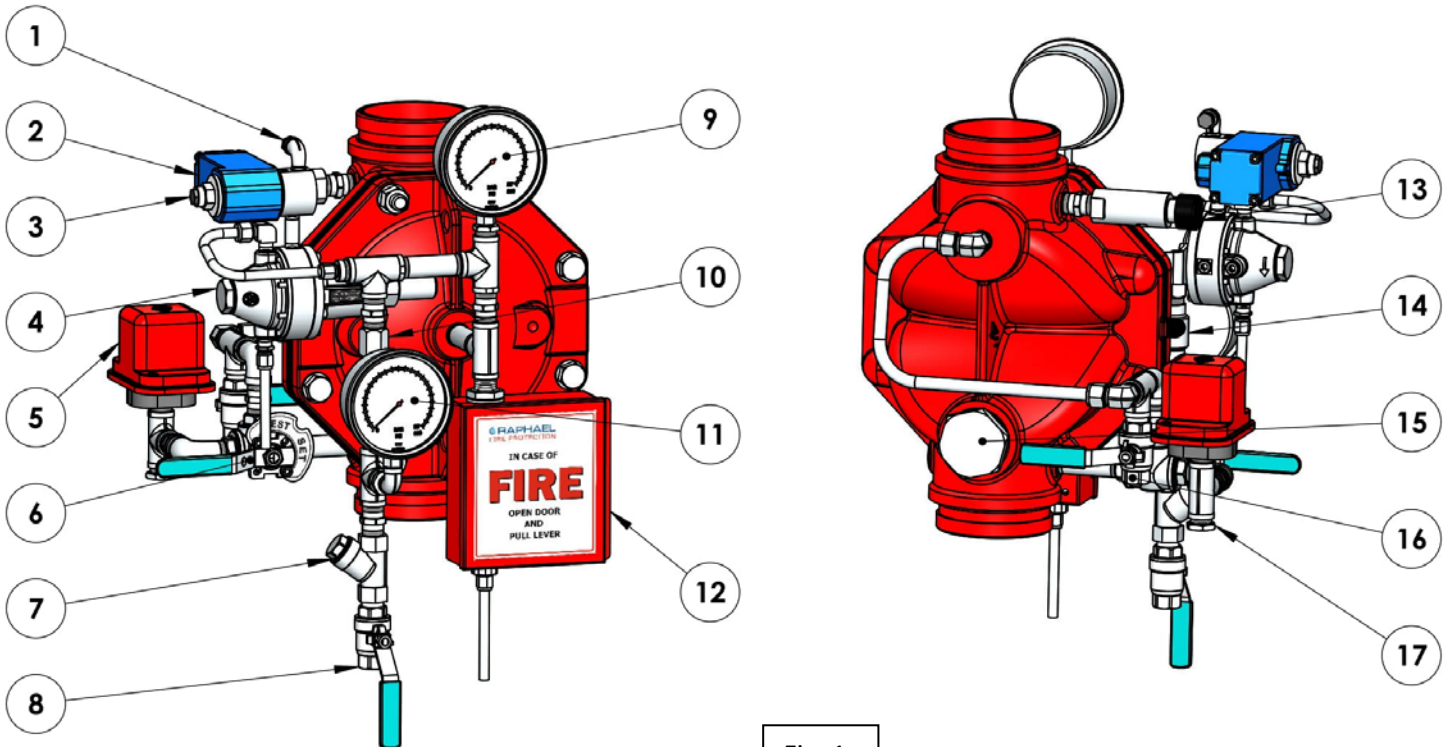

Fig .1
Operation (Reference Figure 1)
5. **Actuated by the Heat/Smoke detection sensors:** initiate a fault alarm for the Heat/Smoke detection sensors at the control board. The solenoid valve (**10**) needs to be energized and the pressurized air in PAV-2 sense chamber need to be vented through the vent port (**1 figure 1**)